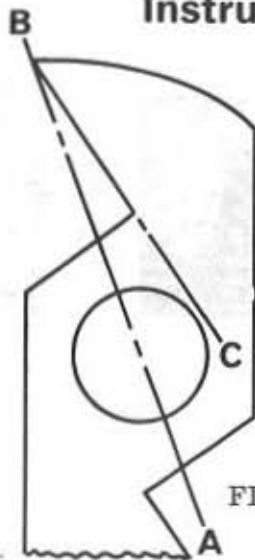

FIG. 1
This method involves grinding the cutter on an arbor between centres. The machine should be set to grind the face of the cutter so that angle ABC, in Fig. 1 is the same after grinding as it was originally.
Before regrinding the cutters by this method, ensure that the check chart supplied with the cutters is to hand. To check the angle of the cutters, place the new ground face, i.e. line BC, in Fig.1, against that of the check chart and when the angle is correct, the bore of the cutter should correspond to that of the check chart. This ensures that the correct angle is maintained at all times.
1. A slight variation in the angle ABC, in Fig. 1 on opposite wings of the cutter is not too important, but for the best results, avoid having the point "B" in Fig. 1 or its opposite on a different radius. This would cause one cutting edge to do all the cutting and would make the cutter out of balance and cause vibration.